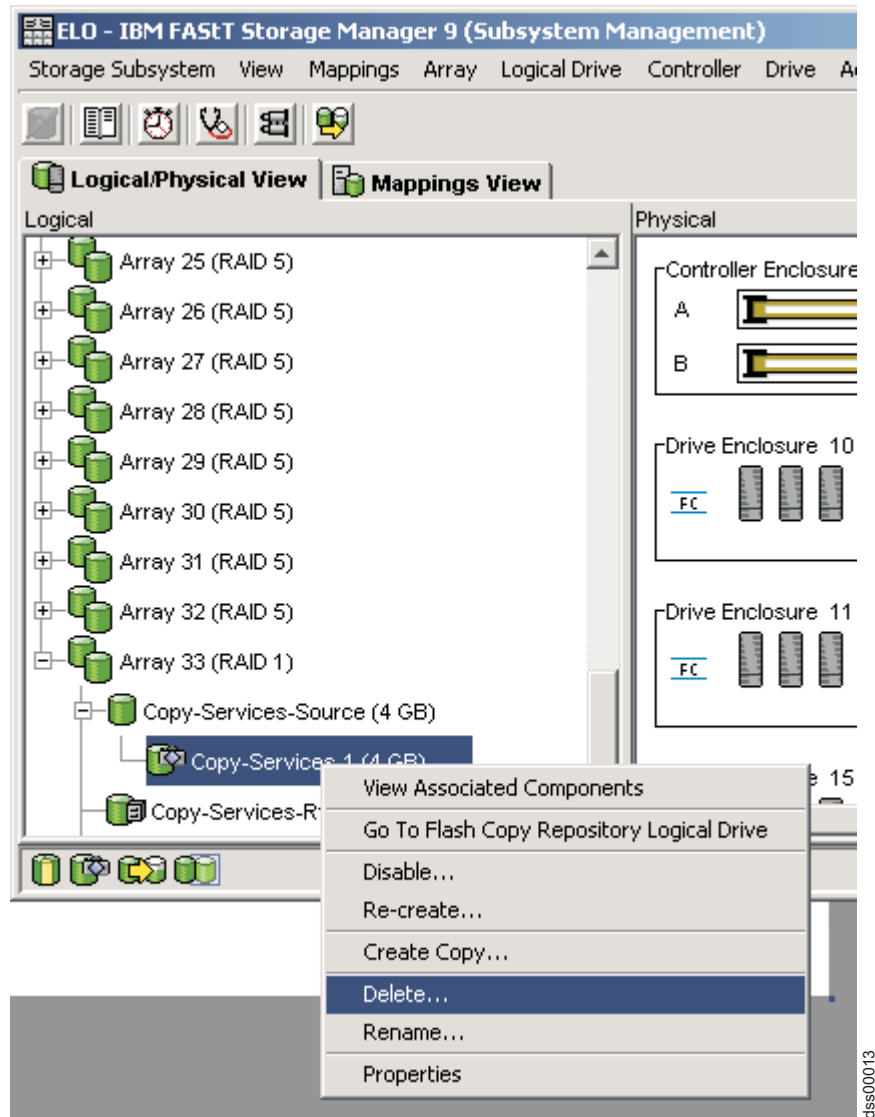

Figure 20. Deleting the FlashCopy logical drive
2. Click **Logical Drive** → **Delete**, as shown in Figure 20.